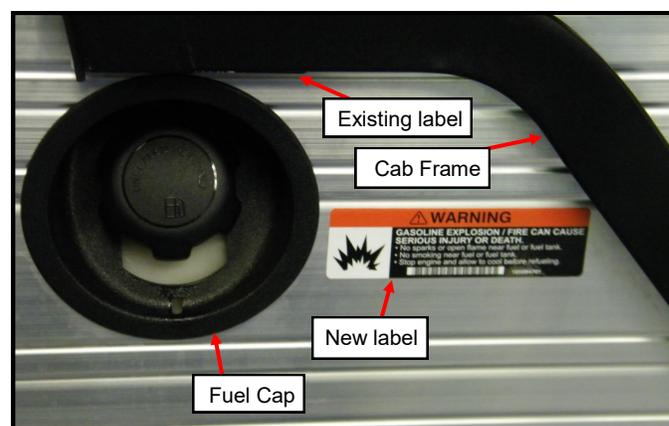

Figure 7.2: Gas/Fire Warning Label
- 7.2 **Gasoline Vehicles only:** Apply the Gas/Fire Warning Label forward of the Fuel Cap as shown (Figure 7.2).